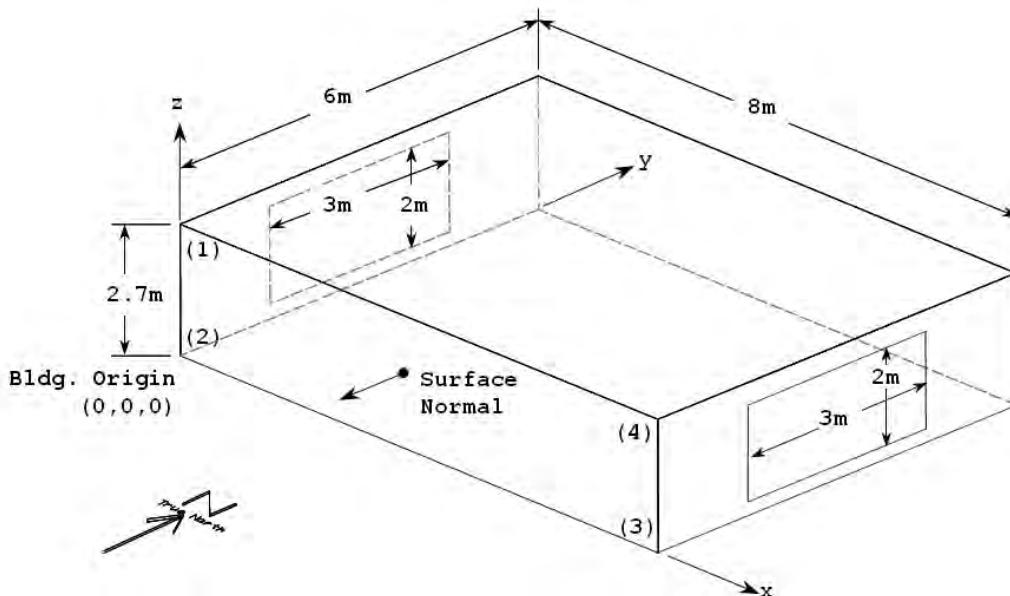

Figure 11. Schematic for Exercise 1
- 5) Add the east window (3m wide by 2m high, centered on wall, see *the drawing in Figure 11 to determine coordinates*):
Vertex coordinates = as determined from the drawing Figure 11. Coordinates in this input are in World Coordinates (all relative to the global origin of 0,0,0). Coordinates are specified as viewed from the outside of the surface, using the rules specified in the SurfaceGeometry object.